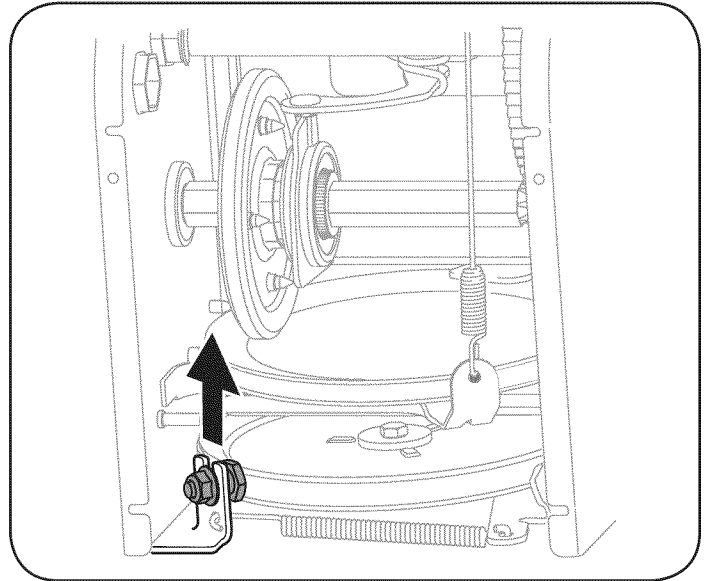

Figure 27
- Loosen and remove the shoulder screw which acts as a belt keeper. Refer to Figure 27.